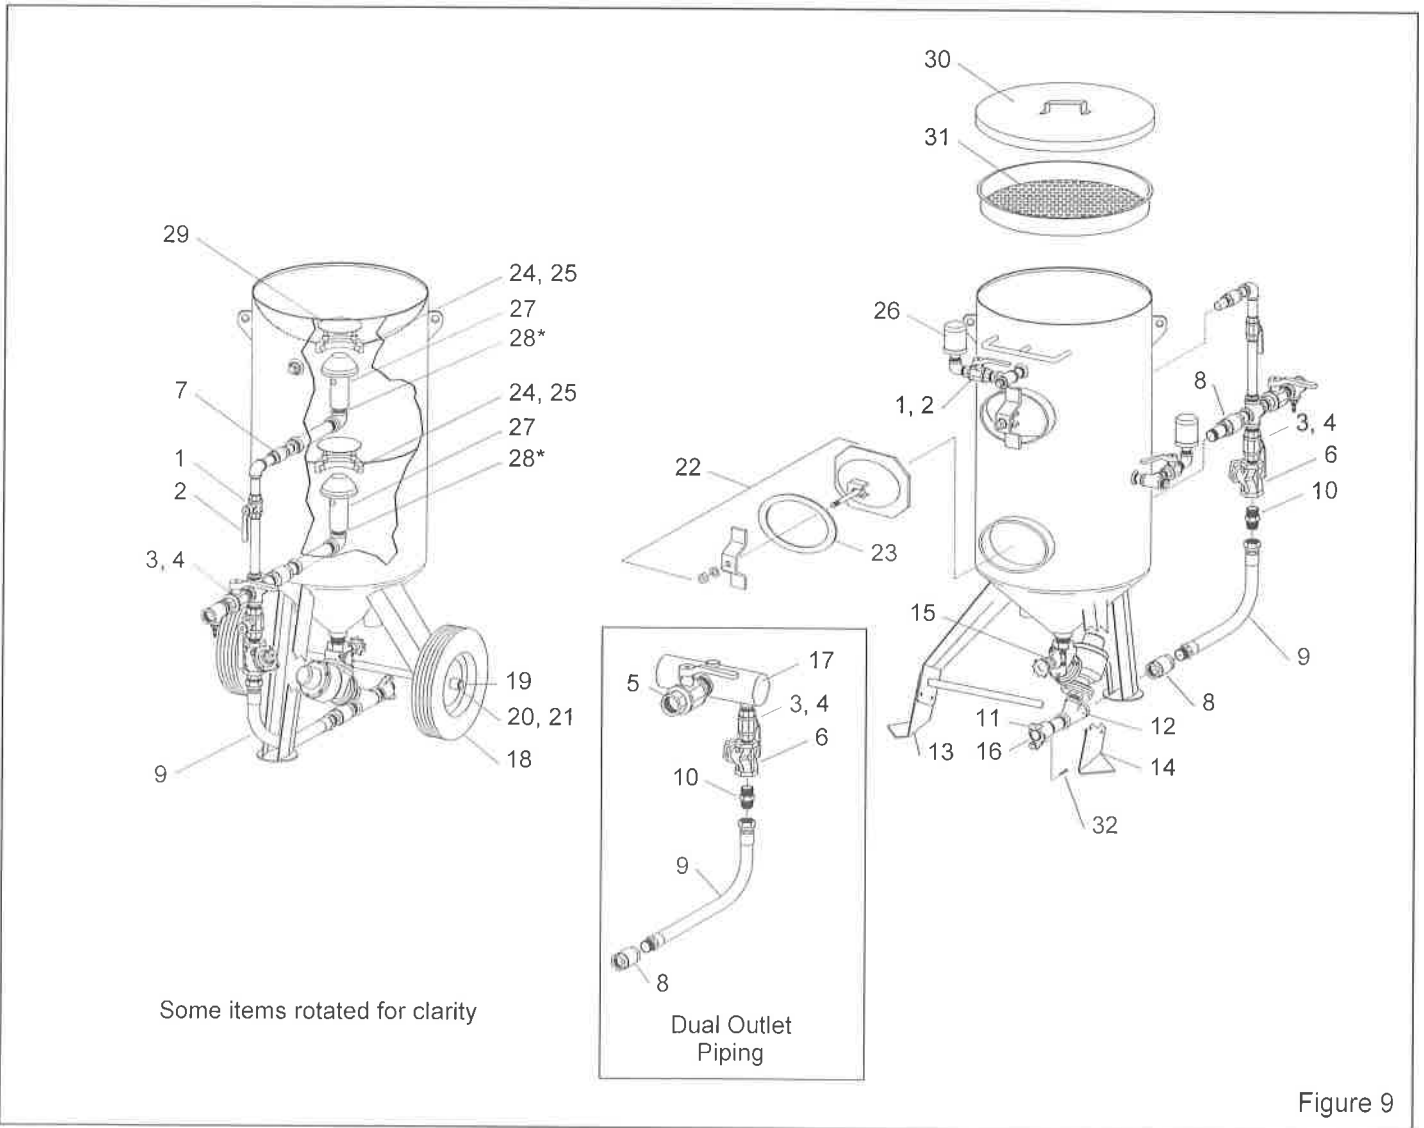

Figure 9
8.3 Blast Machine and Accessories, Figure 9